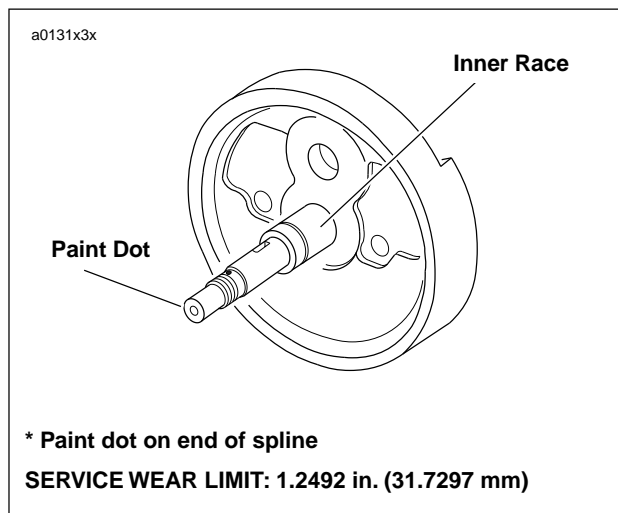

Figure 3-142. Factory Inner Race Sizes
12. See Figure 3-142. Installed inner races are identified at the factory as shown. See Table 3-28.